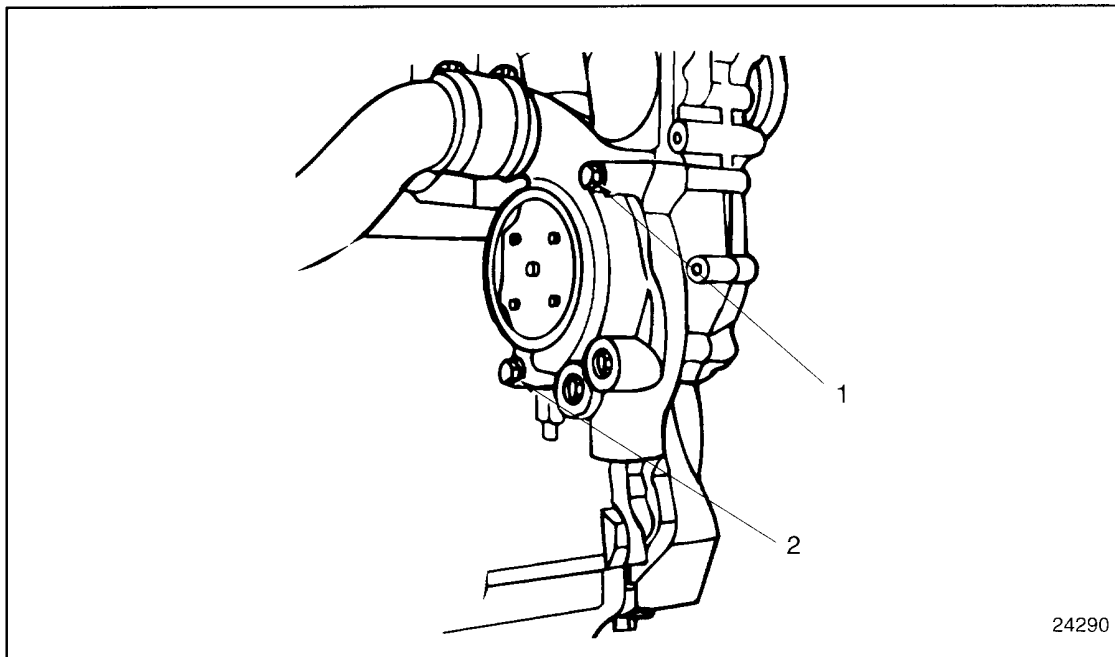

Figure 1-157 Gear Case Cover Bolt Arrangement (Right Rear)
- [b] Loosen and remove the bolts on the back of the gear case on the water pump (right) side of the engine. See Figure 1-157.